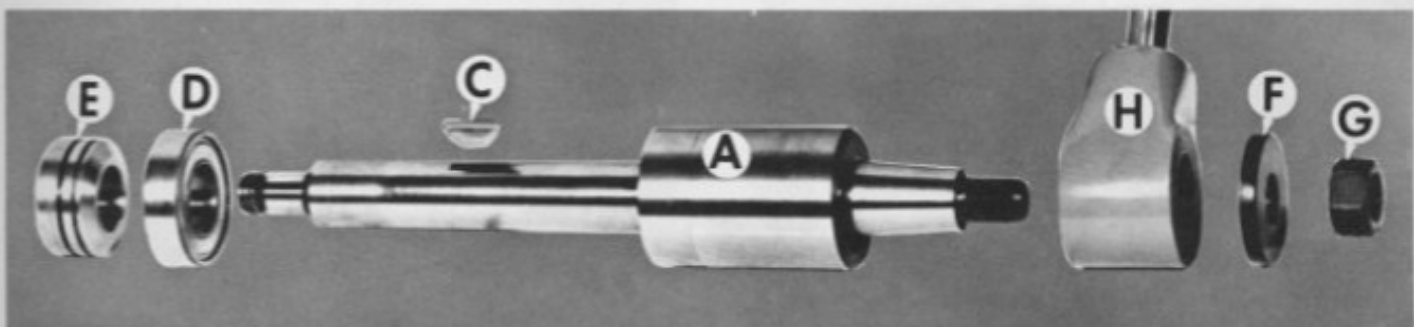
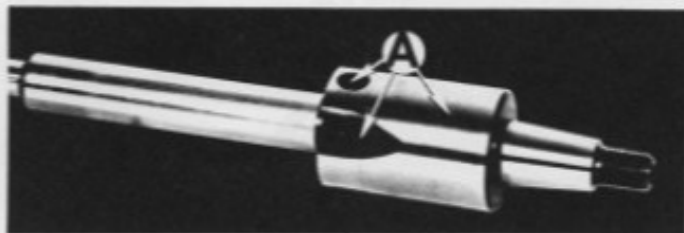

Figure 79 — Turret Indexing Shaft and Components
Figure 80 — Indexing Shaft Lubricant Points
10. Remove key "C", Figure 79, to remove bearing "D" and spacer "E".
1. Replace bearing "D", spacer "E" and key "C" on shaft "A", Figure 79.
2. Coat O.D. and notches of shaft at points "A", Figure 80, with molylube. Also coat O.D. of spacer "E", Figure 79, with molylube.
4. Assemble nut "G", Figure 79, washer "F" and handle "H" on shaft "A".